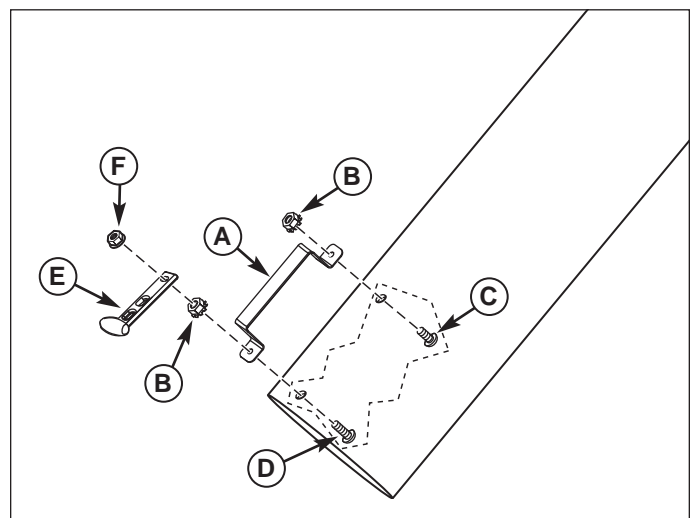

Figure 7. Handle to Tube Installation
1. Install handle (A, Figure 7) using 1/4-20 x 1/2 screw and 1/4-20 locknut (B) for rear hole. Use 1/4-20 x 1 screw (D) as shown. Tighten hardware.
2. Install strap (E) to screw (D) securing with 1/4-20 locknut (F).